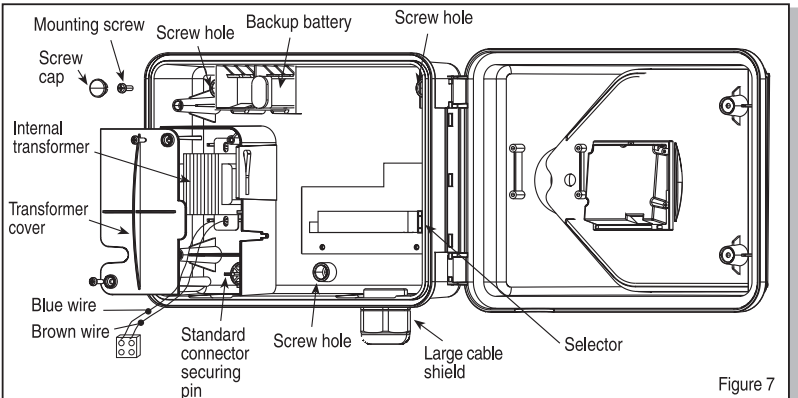

Figure 7
1. To access the connection panel, open the controller panel by releasing the lock screw at the right. See Figure 7.